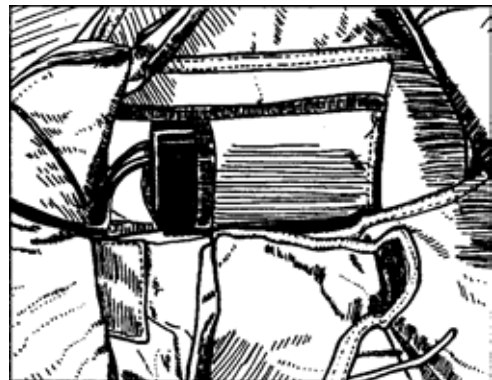

Figure 1
Step 3 Install the CYPRES processing unit into the pocket provided on the divider wall at the bottom of the reserve container. *Figure 1*